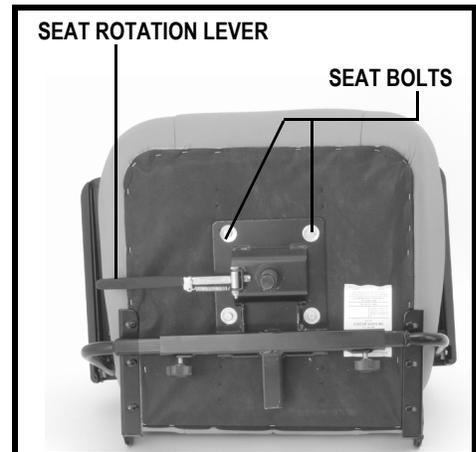

Figure 11. Seat Adjustments
The seat rotation lever secures the seat in one of four positions. See figure 11.
You can reposition the scooter's seat forward or rearward to one of three settings to adjust the distance between the seat and the tiller. See figure 11.
2. Place the seat upside down so that you can see the bottom of the seat base. See figure 11.